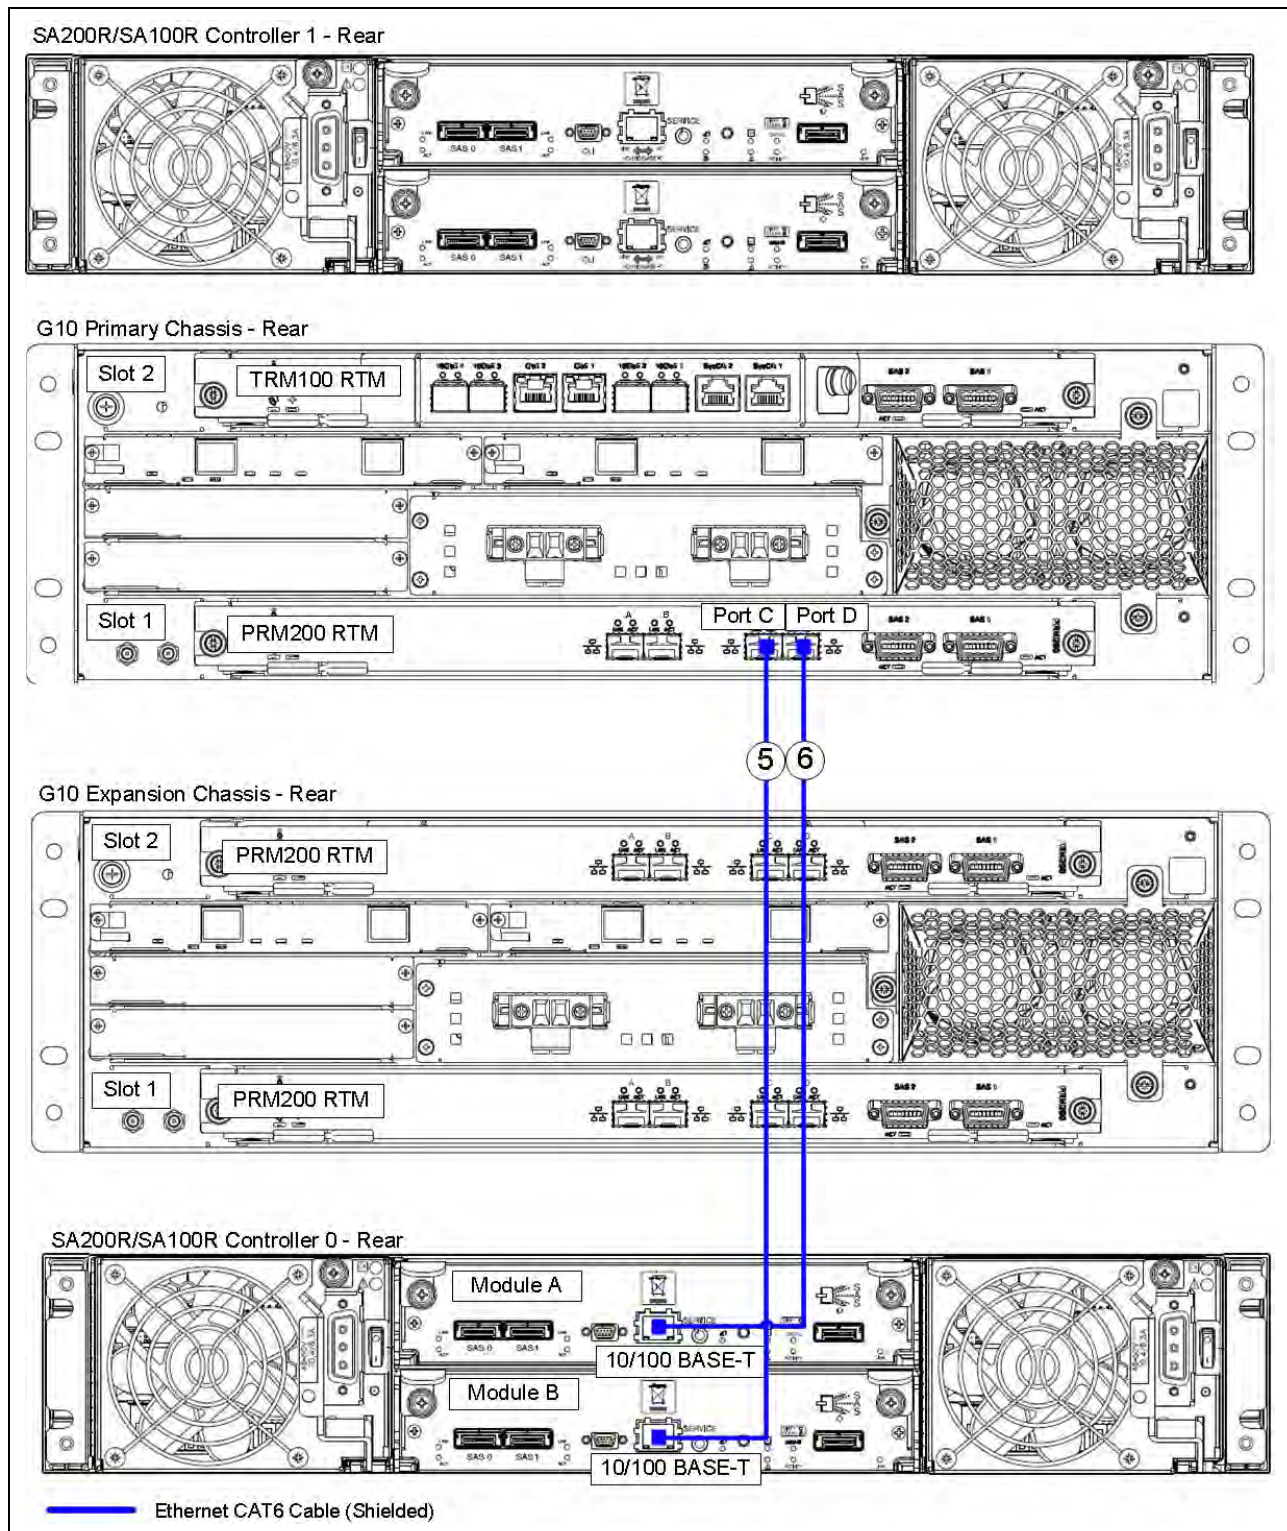

Figure 3.18 - Ethernet Connections - G10 to One Controller ONLY
- Use Figure 3.18 and Table 3.14 to connect the Ethernet cables.